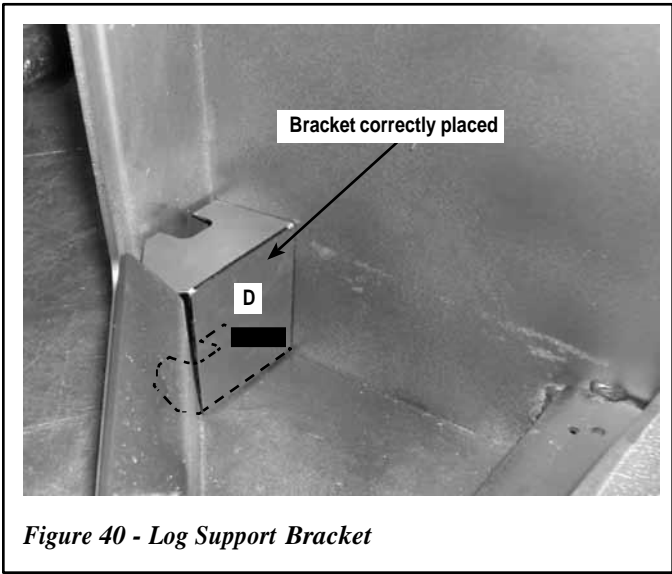

Figure 40 - Log Support Bracket
2. One bracket goes into the left corner and the other into the right corner of the firebox. Rotate the brackets (D) so they are placed as shown in Figure 40. The bracket fits between the back of the firebox and the air wash at the front of the insert.